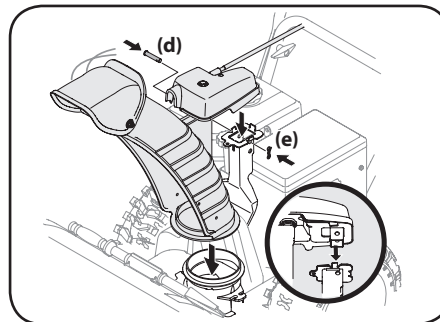

Figure 2-24
1. Place chute onto chute base and ensure chute control rod is positioned under handle panel. Secure chute control assembly to chute support bracket with clevis pin (d) and bow-tie cotter pin (e) removed in Step 1. See Figure 2-24.